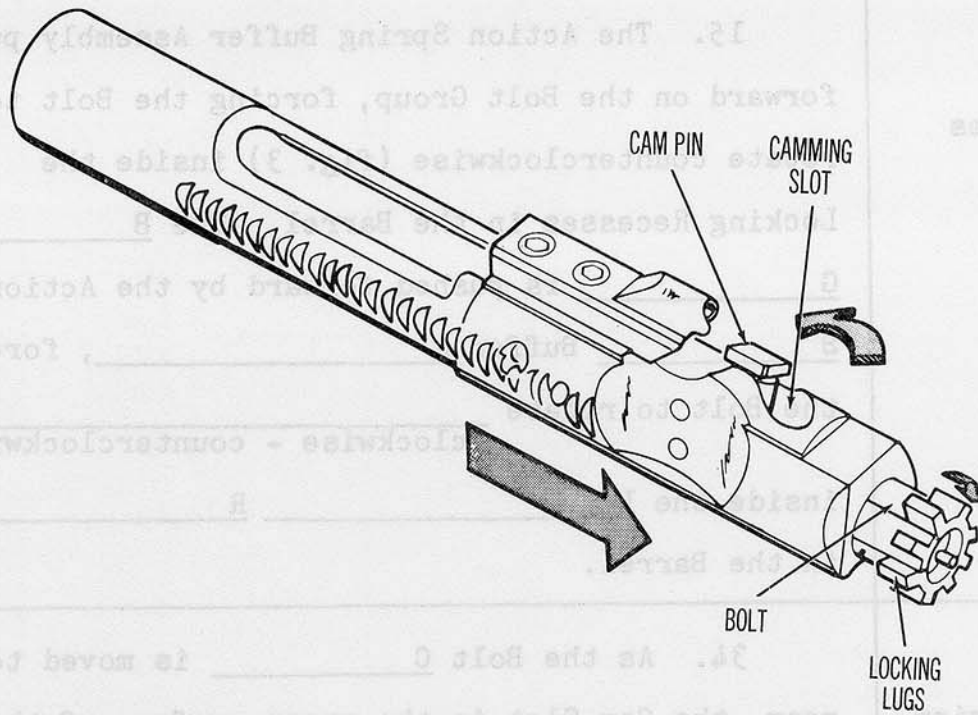

Fig. 3
15. The Action Spring Buffer Assembly pushes forward on the Bolt Group, forcing the Bolt to rotate counterclockwise (fig. 3) inside the Locking Recesses in the Barrel. The B G is pushed forward by the Action S Buffer A, forcing the Bolt to rotate (clockwise - counterclockwise) inside the L R in the Barrel.